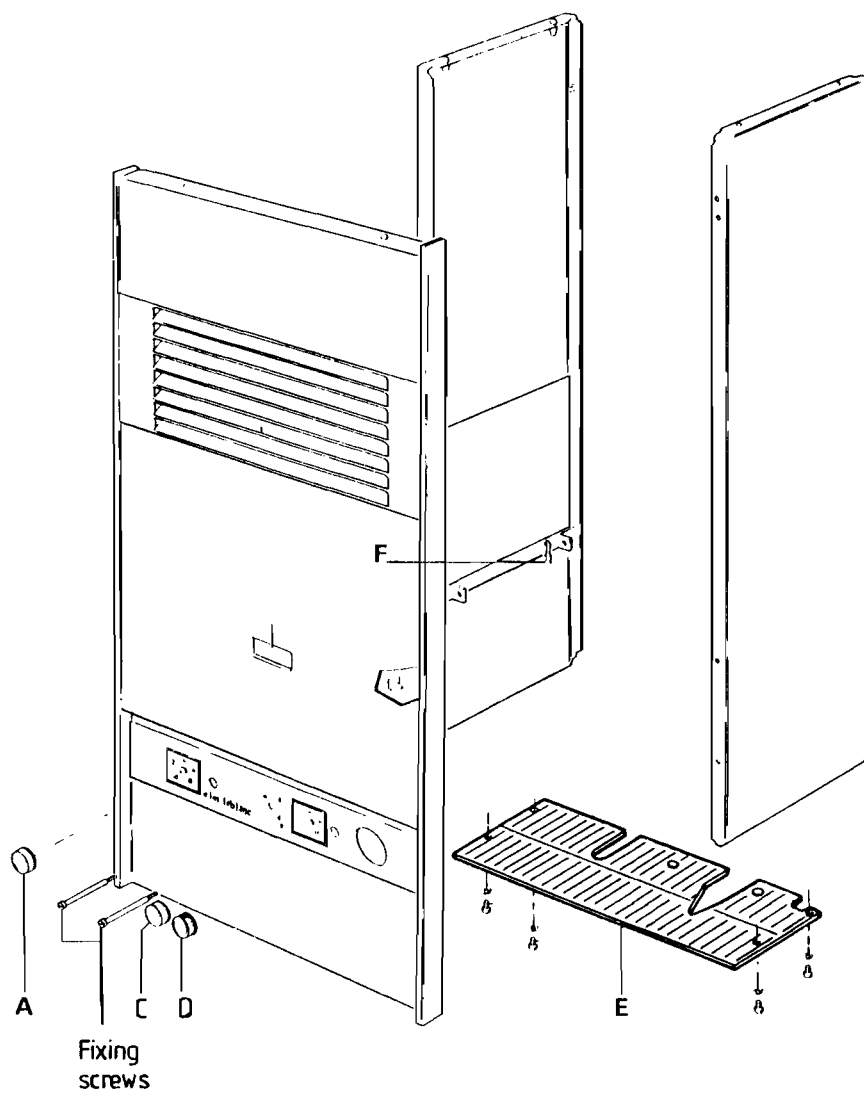

Fig. 19
1. Remove the 3 control knobs temporarily fitted. Replace the side and front panels in the reverse order to that in Stage 3 (Fig. 19).
2. Additionally, fit the bottom grille 'E' (Fig. 19) using the 4 screws and washers provided (found in the large carton) and refit the 3 control knobs over the outer case.